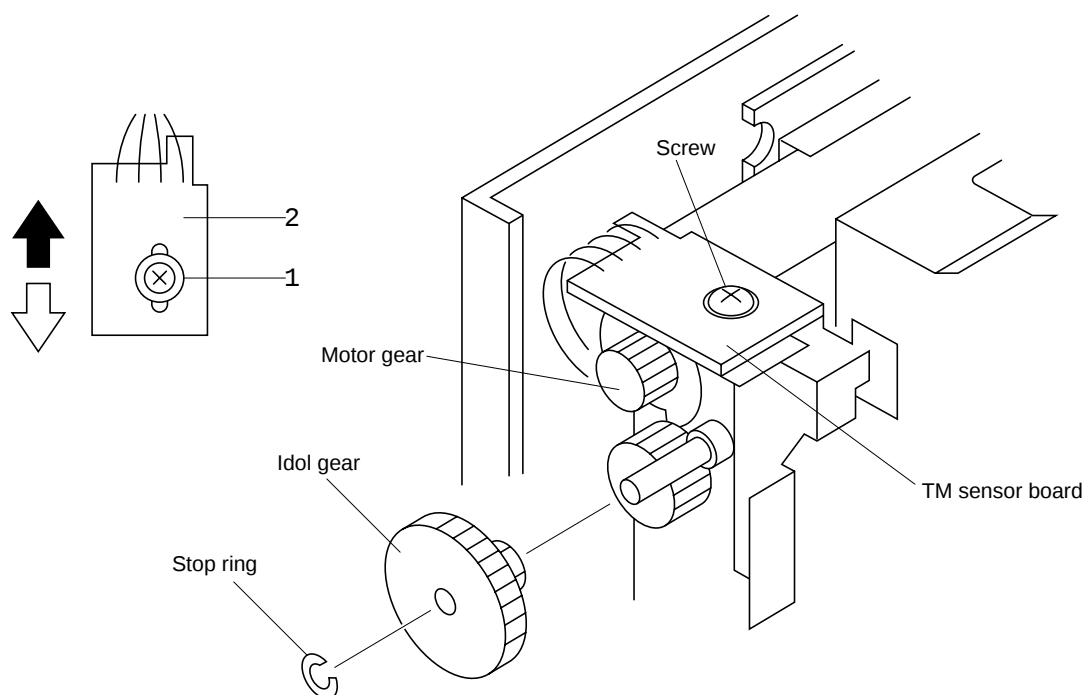

Fig. 1-5 Adjustments A and B for dot alignment
1. Remove the stop ring and idol gear as shown in Fig. 1-5.